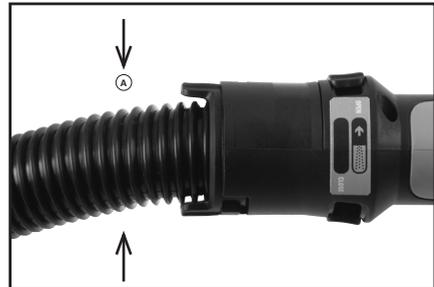

Fig. 3
- Select the $\varnothing 45\text{mm}$ end of the Extraction Hose. (**Fig. 3**) Note the Locking Ring (**A**)